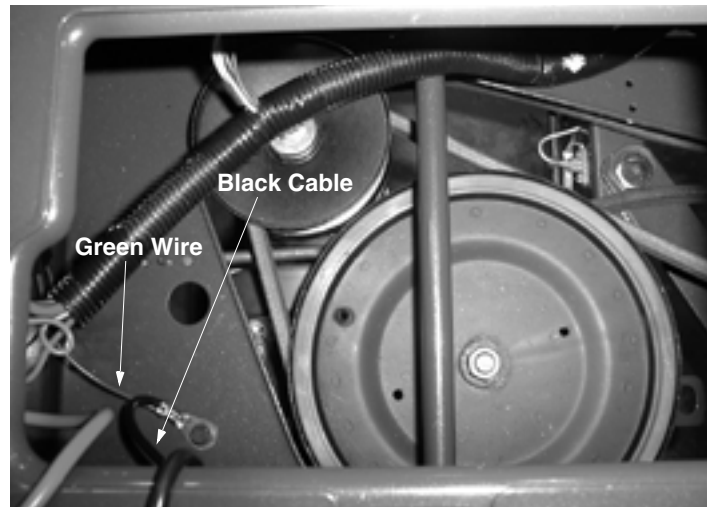

Figure 13
10. Working through the battery box opening, pull all loose connectors on the rear section of the harness over the lift shaft. Push plastic clip in harness into hole in frame just in front of lift shaft. See Figure 13.
12. Attach black, negative battery cable with the green, ground wire to frame. Be sure to place star washer between frame and fitting. See Figure 13.